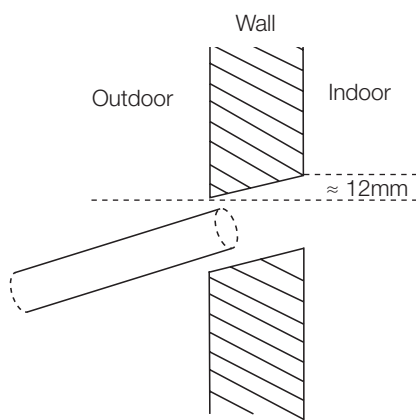

Fig. 6.4
- Using a 65mm core drill, drill a hole in the wall. Make sure that the hole is drilled at a slight downward angle, so that the outdoor end of the hole is lower than the indoor end by about 12mm. This will ensure proper water drainage (See Fig. 6.4). Place the protective wall cuff in the hole. This protects the edges of the hole and will help seal it when you finish the installation process.